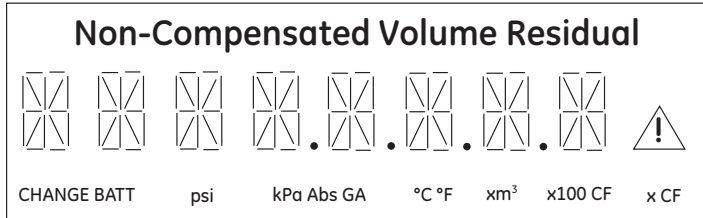

Figure 6.3 Example - Data Display Screen
- Data will be displayed in digital format as shown in Figure 6.3 Example.